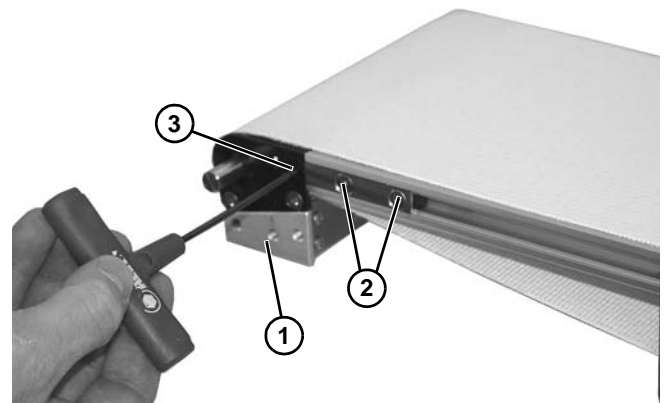

Figure 24
1. On drive tail end of the conveyor, adjust head plate assembly (**Figure 24, item 1**): On both sides of conveyor, loosen fastening screws (**Figure 24, item 2**) and rotate tracking cam (**Figure 24, item 3**) to adjust head plate assembly.